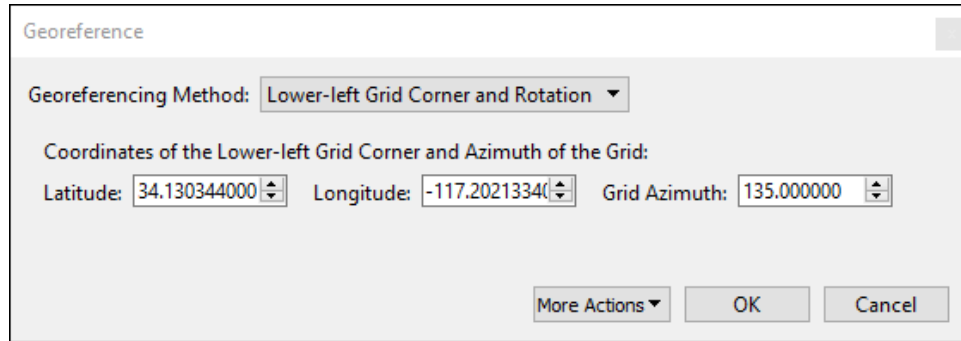

Figure 3. The Georeference dialog box
- Click the *Edit* button to open the Georeference dialog box (Figure 3) where you can edit the geo-referencing data. **Georeferencing Method** defines how the model grid is associated with a spatial location.